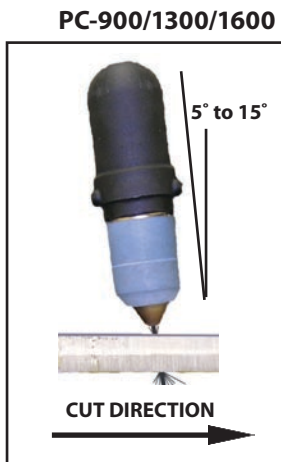

Figure 4-1. Proper Torch Angle
6. After starting the cut, the torch should be maintained at a 5 - 15° forward angle (Figure 4-1). This angle is especially useful in helping to create a "drop" cut. When not using the standoff guide, the nozzle should be held approximately, **PC-1300/1600:** 1/8 - 1/4 in. (3.2 mm - 6.4 mm), **PC-900:** 1/8 - 3/16 in. (3.2 mm - 4.8 mm) from the work.